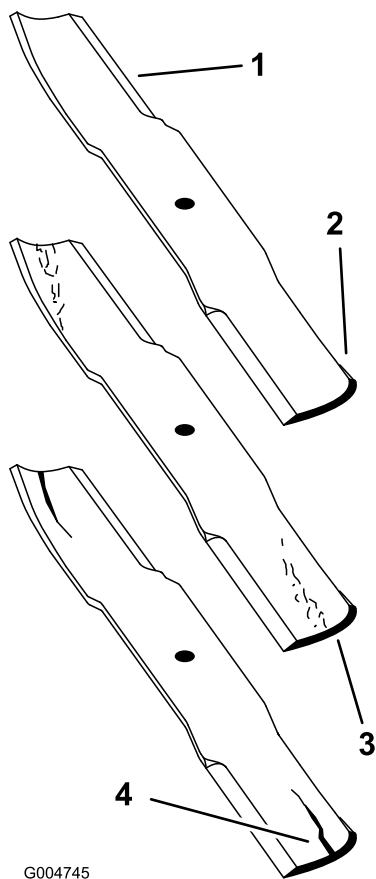

Figure 67
1. Inspect the cutting edges (Figure 67). If the edges are not sharp or have nicks, remove and sharpen the blades. Refer to Sharpening the Blades.
2. Inspect the blades, especially the curved area (Figure 67). If you notice any cracks, wear, or a slot forming in this area (item 3 in Figure 67), immediately install a new blade.